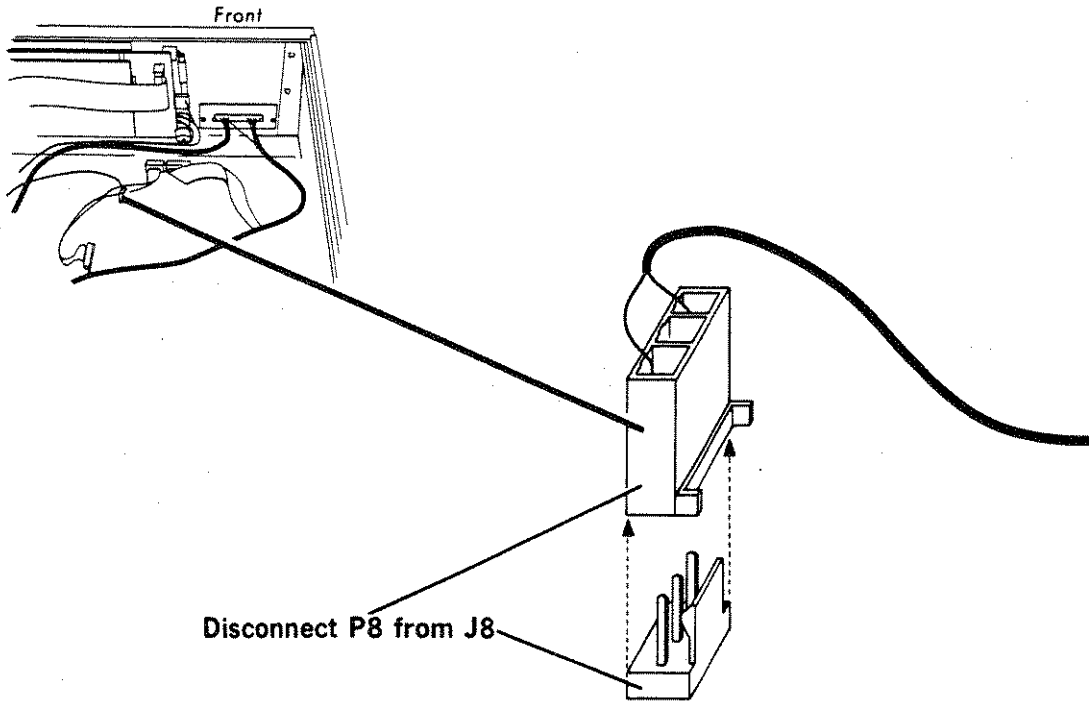

Figure 7-15. Disconnecting P8
STEP 3. Disconnect plug P8 from the connector J8 on the High Voltage circuit assembly. Refer to Figure 7-15.